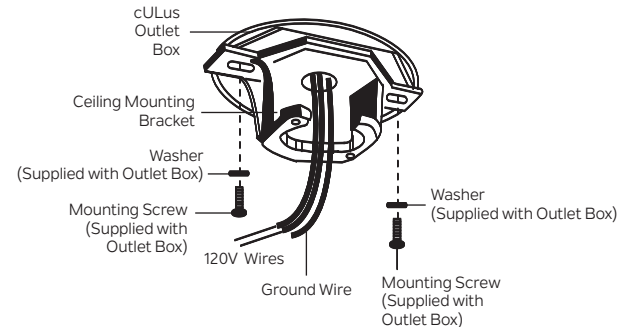

Fig. 6
Step 3. Pass the 120 volt supply wires from the ceiling outlet box through the center of the ceiling mounting bracket. **(Fig. 6)**
Step 4. Attach the ceiling mounting bracket to the outlet box using the mounting screws and washers included with the outlet box. **(Fig. 6)**